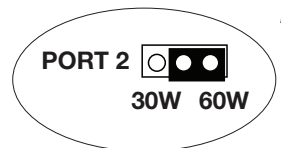

Fig. 1
2. Port Configurations (*Fig. 1, pg. 4; Fig. 4a, pg. 10*):